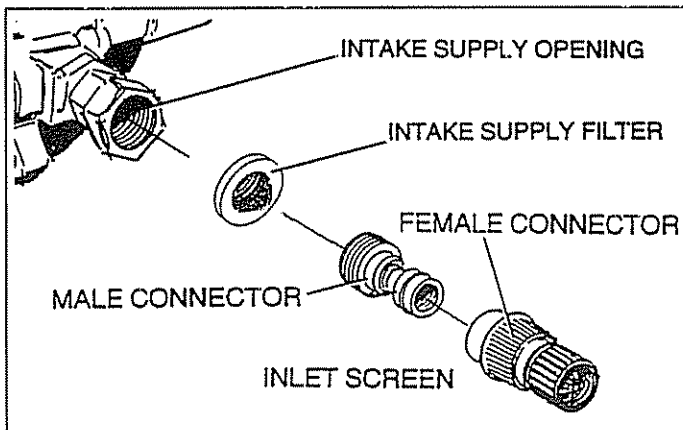

FIG. 6
- Included with this unit is a Quick-Connect fitting you attach to Water Inlet on pump. The quick-connect includes two parts — a Male Connector factory-installed on water inlet and a Female Connector (Fig. 6). Remove male connector to inspect Intake Supply Screen in water inlet for cleanliness and inspect Inlet Screen on female connector. Install male connector to water inlet and attach female connector to garden hose.